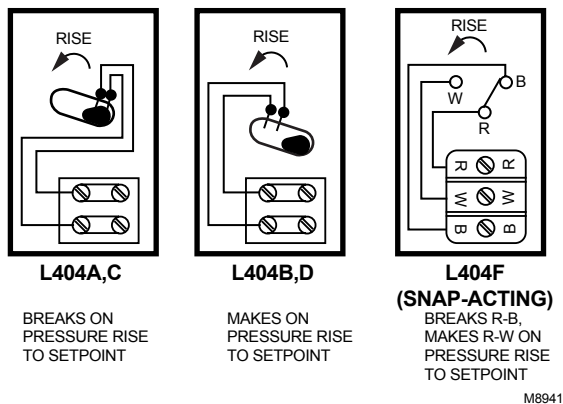

Fig. 3. L404 terminal blocks and internal schematics.
4. All models have a terminal block inside the cover (see Fig. 3 and 4) and a 7/8 in. (22 mm) hole in one side for 1/2 in. conduit, cable or wires. Remove the front cover by loosening the screw at the bottom of the main scale.